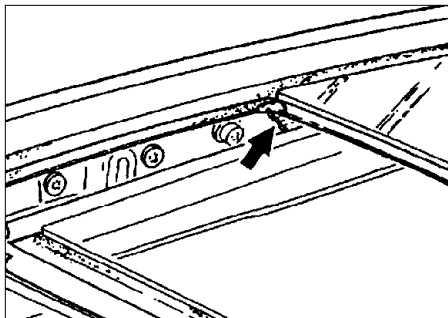

Figure 14
- Press sealing material between the roof frame and the rear window inside bracket (arrow figure 14).
- Seal the gap between the rear body center panel (arrows, figure 14) and side members from the outside using silicone free body sealer. Depending on the body color, a light or dark sealer should be used which can be painted.